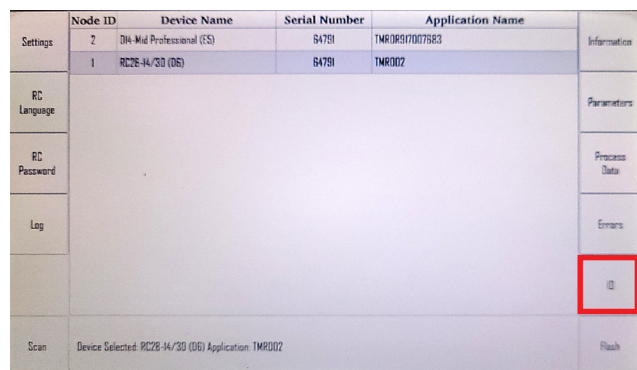

Figure 11: Press the 'IO' button
8. Once 'RC28' is selected, press the 'IO' (Input/Output) button; see Figure 11.